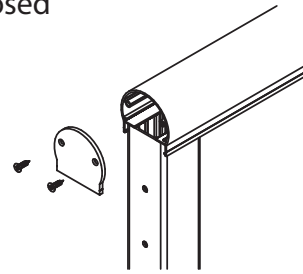

fig. 9
5) Attach End Plates (fig.9): install the end plate to all of the exposed top rail ends using two #10 x 3/4" flat head screws.